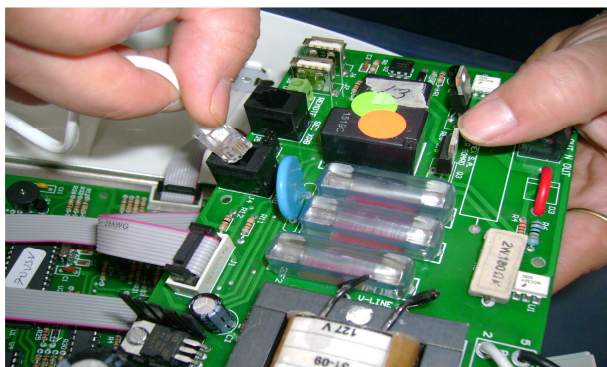

Fig. 8
- a) Check if the Hand Controller Harness is correctly connected to the “Modular Jack J4” labeled “MAIN XRB” on the Power Board (see Fig.8).